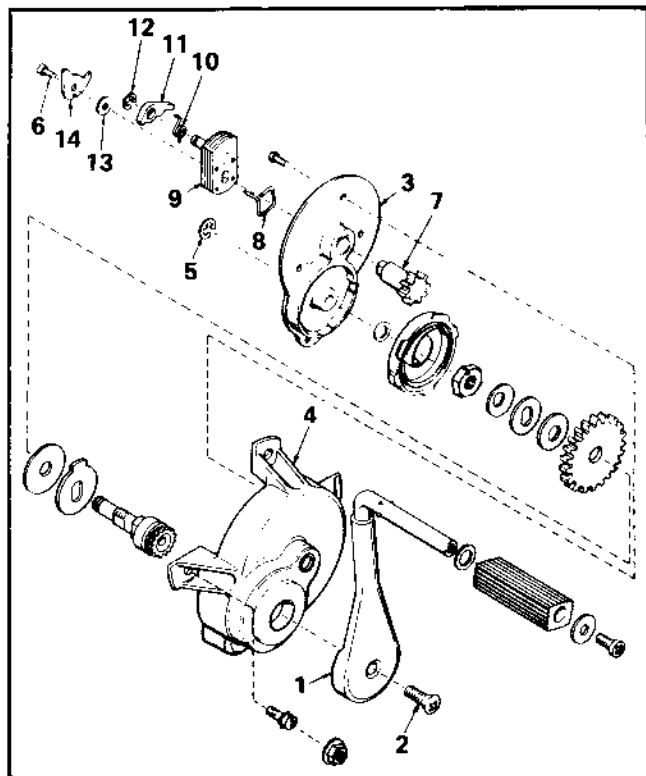
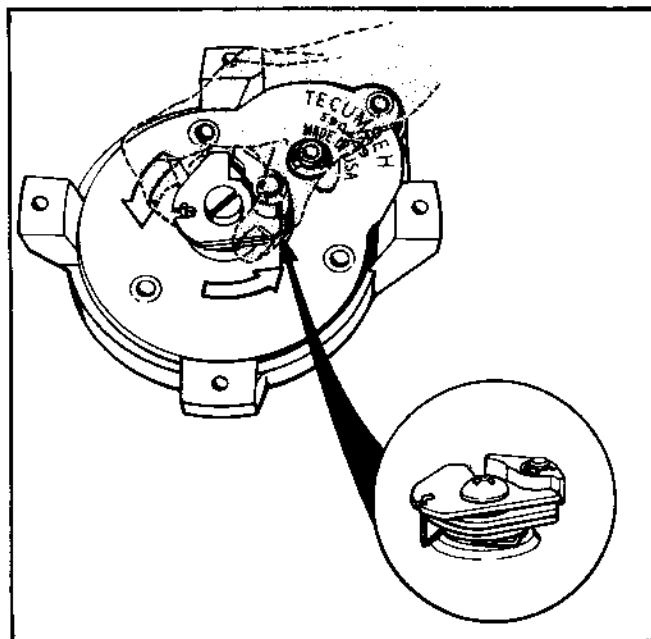
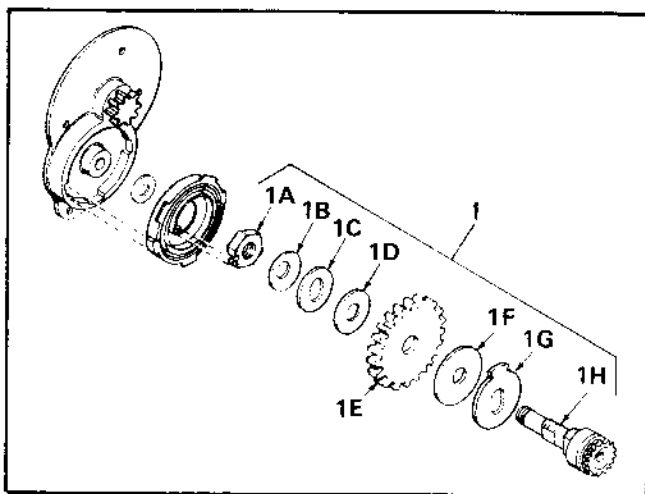

Figure 3-1
Figure 3-2
Figure 3-3
Designed and built by Tecumseh for 2.5 thru 5 h.p. Tecumseh mini-bike engine. The kick starter has a built-in clutch to protect the operator and engine from engine kick-back. Identification of the kick starter can be easily accomplished and is shown in Figure 3-2. The mini-bike warranty applies to this accessory.
1. Remove crank arm assembly No. 1, Figure 3-1 by removing screw No. 2, Figure 3-1. If necessary, mark arm and starter for proper reinstallation when repairs have been completed.
2. Remove 4 screws holding cover assembly No. 3, Figure 3-1, to starter housing No. 4. Hold dog plate and pin assembly (incl. dog and dog cam), Figure 3-2, in a manner that when cover is removed from housing, spring tension will not be released. Remove cover from housing. When cover has cleared housing gradually release spring tension by allowing dog plate and pin, dog and cam to unwind opposite arrow direction. See Figure 3-2.
3. Remove retainer ring No. 5, Figure 3-1. Remove shaft, clutch plate and liner, gear and hex nut No. 1, Figure 3-3, as an assembly. Remove thrust washer and spring and keeper.
4. Remove center screw No. 6, Figure 3-1, to gain access to individual parts assembled to dog plate and pin and shaft. Note location of dog and dog return spring and brake location on plate and on dog cam, Figure 3-2.
5. Remove hex nut (LEFT HAND THREAD) No. 1A, Figure 3-3, from shaft for servicing gear, clutch liner or clutch plate.
1. Install clutch plate, No. 1G, clutch liner, No. 1F, gear, No. 1E, (flat side toward liner) thin flat washer, No. 1D, thick flat washer, No. 1C Belleville washer, No. 1B, (crown toward hex nut) and hex nut (flat side against Belleville washer) in that order on shaft No. 1H, Fig. 3-3. Torque nut to 40 ft. lbs. maximum. If not properly torqued damage to starter may occur. It is normal under certain conditions that some starter clutch slippage may be encountered on the 5 h.p. engine. Install spring and keeper assembly on hex nut with spring end in nut notch. Place thrust washer on shaft and install spring and keeper and gear assembly in cover. See Fig. 3-3. Note: Locators on keeper to fit in cover. Install clip on shaft opposite spring side of cover.
2. Install shaft No. 7, Fig. 3-1, through cover. Install brake spring No. 8, Fig. 3-1 and 3-2, on cover. Install dog plate No. 9, dog spring No. 10, dog No. 11, clip No. 12, washer No. 13, dog cam No. 14 and center screw on shaft No. 6, Figs. 3-1 and 3-2. Torque screw to 60 in. lbs.
3. Holding cover with gear assemblies installed, wind dog plate assembly as shown by arrow in Fig. 3-2, approximately 2 to 3 turns. With spring tension applied hold the dog plate assembly and guide the plate assembly into location in the housing. Be sure cog on clutch plate is positioned in housing to allow free travel.